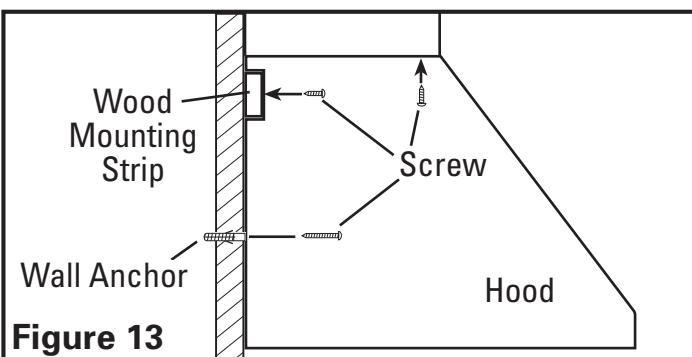

Figure 13
- Rest the cavity in the back side of the hood on the wood strip and secure hood to wood strip with the included 3/4" screws through the holes in the back of the hood that line up with the wood strip (use 6 screws for 30" and 36" widths and 8 screws for larger widths) Secure the bottom of the hood by installing the screws provided into the wall anchors (**Figure 13**).
- From inside the hood canopy, secure hood to the underside of the cabinet by using four wood screws (not included) through the keyhole slots of the hood (**Figure 13**).